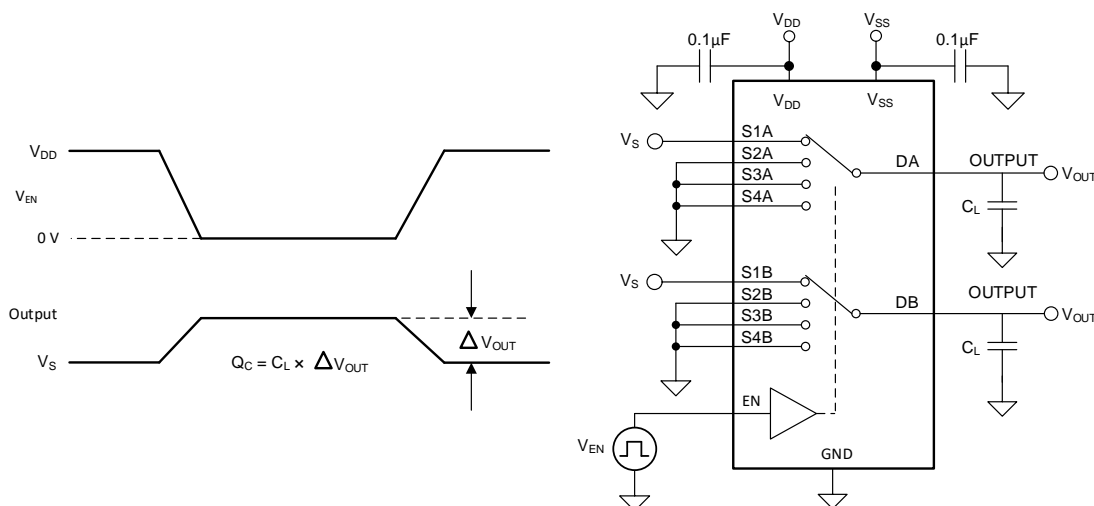

Figure 24. Charge-Injection Measurement Setup
The TMUX1109 has a transmission-gate topology. Any mismatch in capacitance between the NMOS and PMOS transistors results in a charge injected into the drain or source during the falling or rising edge of the gate signal. The amount of charge injected into the source or drain of the device is known as charge injection, and is denoted by the symbol  $Q_C$ . Figure 24 shows the setup used to measure charge injection from source (Sx) to drain (D).